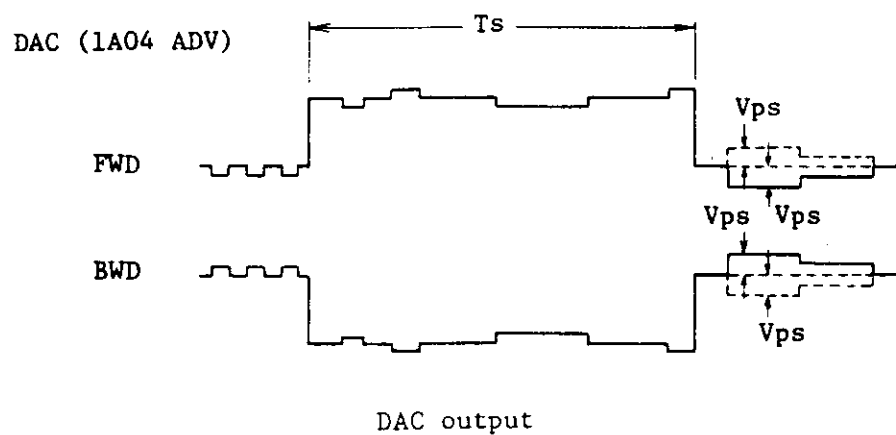

Figure L.12 DAC output-stop time
- (4) Check that the time Ts shown in Figure L.12 is in accordance with Table L.2.
- (5) Issue command \$6A and perform a backward start/stop operation. Check the time T and Ts in the same manner as above.